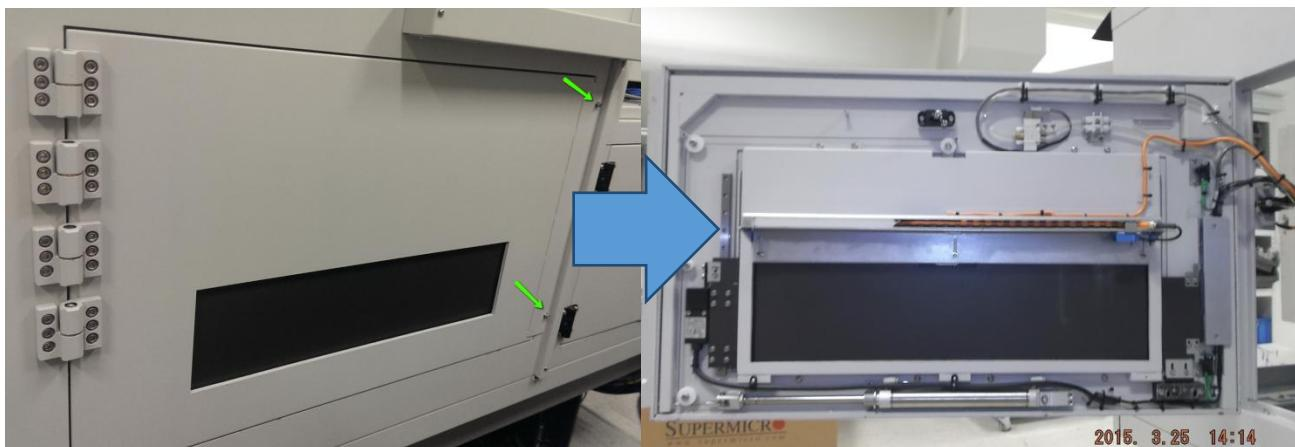

Figure 14 Right outer barrier
11. If sensor need re-adjust, remove 2 x screws & open right outer barrier as shown in Figure 14.